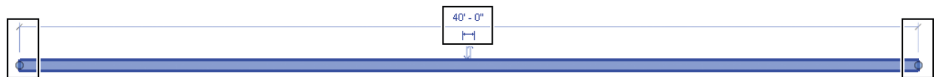

FIGURE 2.10 Modifying the wall length
3. There are two options to modify the length, as shown in Figure 2.10. You can type in a new value by selecting the temporary dimension and entering the value, or you can simply drag either wall end to a new location.